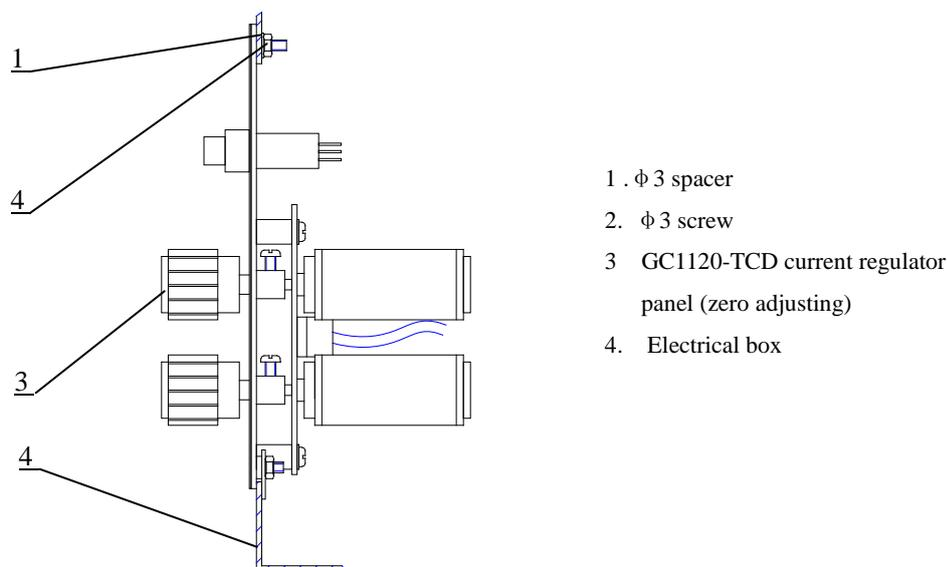

Figure 7-5 Schematic drawing for parts under the electrical box
- 2) Take TCD current regulator panel (zero adjusting electrical board) out of the GC1120-TCD current regulator package. Install the panel on to the position where the existing blank board sits. Fasten the two screws on the board. Please refer to Figure 7-5.